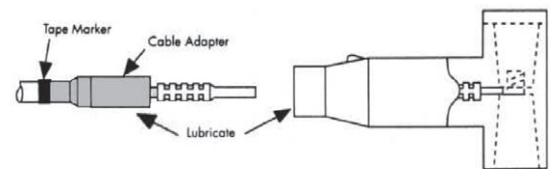

Fig. 9 - Clean and Lubricate
- A. Clean and lubricate the cable entrance of the T-Body and the outside of the cable adapter with supplied lubricant.(See Figure 9.)